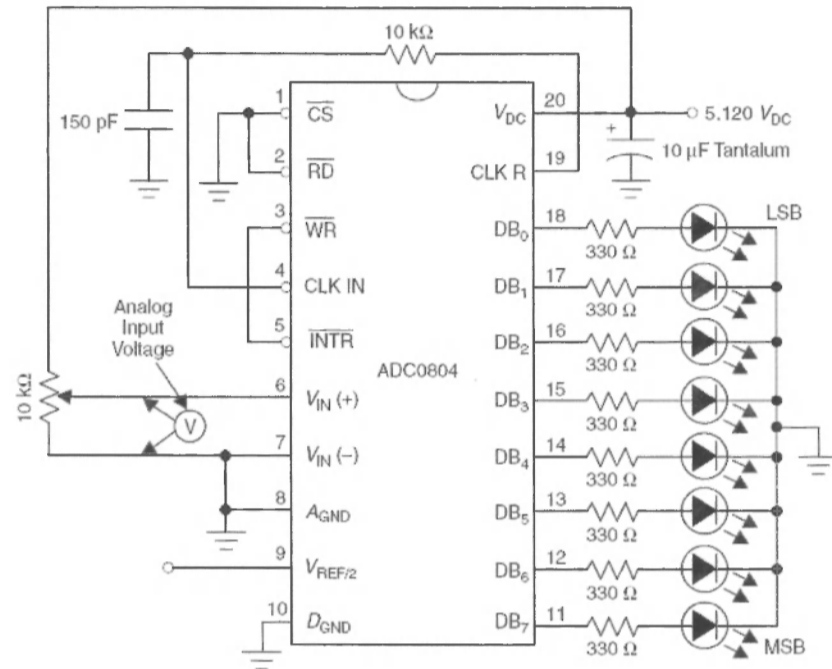

Figure Q4
**Q4** The 8-bit ADCs in IC form require only eight clock pulses using a register that performs a function called successive approximation. Figure Q4 shows the schematic diagram of the ADC0804 analog-to-digital converter IC. It uses an internal successive approximation register (SAR). The circuit is capable of converting an analog voltage into a proportional 8-bit digital output. The voltage range to be converted is determined by applying the maximum desired voltage to VDC at pin 20. The analog input is applied across VIN(+) and VIN(-).